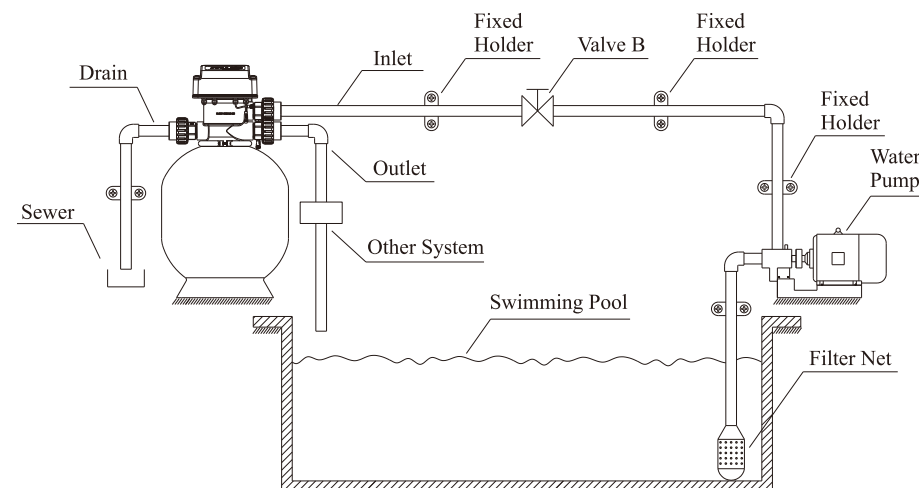

Figure 1-3
- ② As the Figure 1-3 shows, installation of Outlet/Inlet/Drain Pipeline.